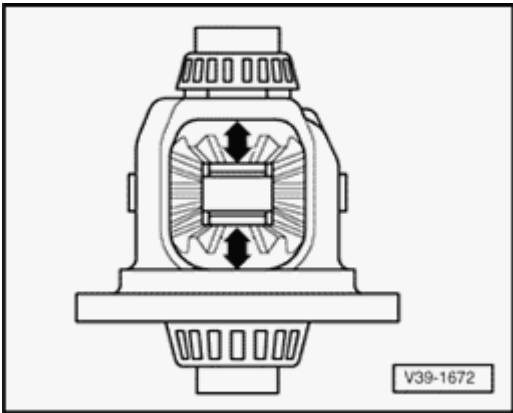

**Fig. 87: Differential Planetary Gears, Adjusting**
- Adjusting. See Fig. 87
- Redefine thickness. See Fig. 87
- If large bevel gears have been replaced, measure and select new shims. See **Fig. 87**.